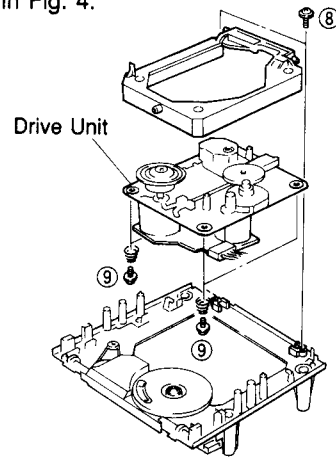

Fig. 4
- Remove 2 screws ( ⑧ ) in Fig. 4.
- Remove 4 screws ( ⑨ ) and then remove the Drive Unit in Fig. 4.